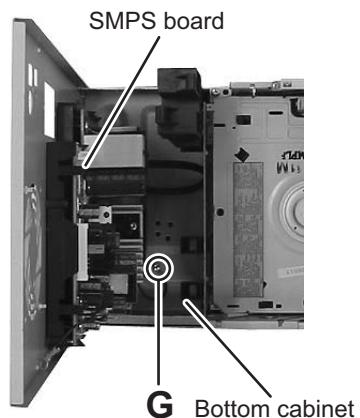

Fig.6
- (2) From the top side of the main body, remove the one screw **G** attaching the earth wire on the bottom cabinet. (See Fig.6)